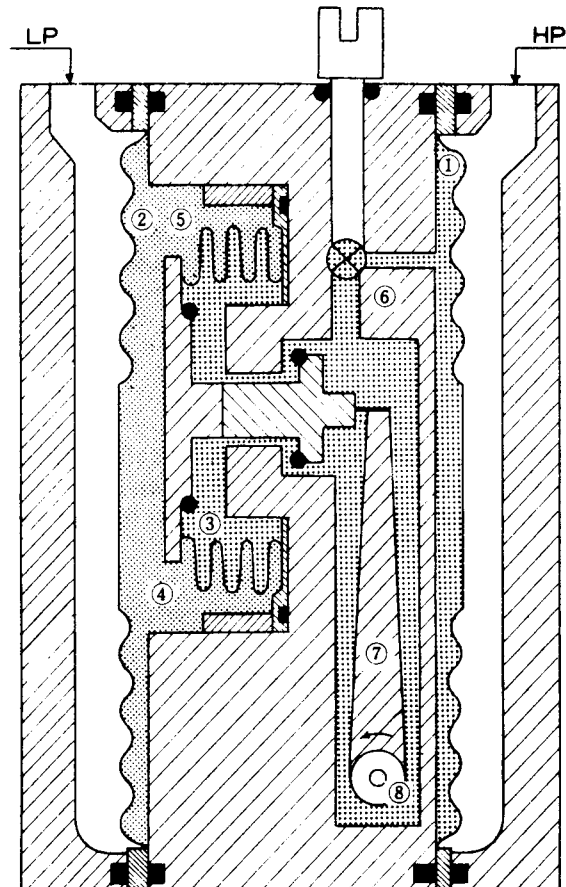

Figure 2. Schematic cross section of meter body.
- 1) A corrosion-resistant type 316 stainless steel diaphragm separates each of the pressure chambers from the center section. Here, sensing element, torque rod, and seal tube are immersed in an inert non-corrosive silicone fluid (Figure 2).
5.4 OPERATION (Figure 2)
a. High and low process pressures (HP and LP) are transferred by barrier diaphragms ① and ② to the silicone fill in the center section of the meter body. HP fill acts on the inside ③ and LP fill acts on the outside ④ of the measuring element. At balance (during periods of no flow) the pressure on both sides of the bellows ⑤ are equal.
b. With flow, the force applied by the LP fill decreases, the element moves to the left, and HP fill flows through damping restriction ⑥. As the measuring element moves, it exerts a proportional torque through a torque arm ⑦ on the torque rod and seal tube assembly ⑧, which actuates the transmitting unit.